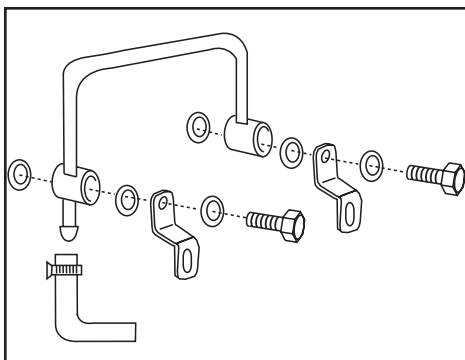

Fig. 1
3. Following the illustration (Fig. 1), assemble the breather tube on the heads. **DO NOT TIGHTEN YET.**